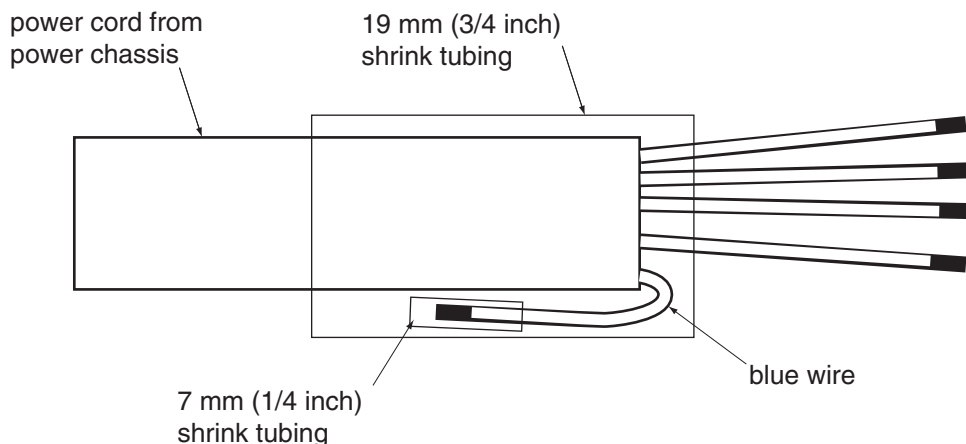

Figure 6-2. Insulating Blue Wire in Power Cord (200-240 VAC)
Refer to **Figure 6-2** for this procedure.
4. Remove and discard the 7 mm (1/4-inch) shrink tubing from the end of the blue wire in the power cord (see Figure 6-2 on page 52).